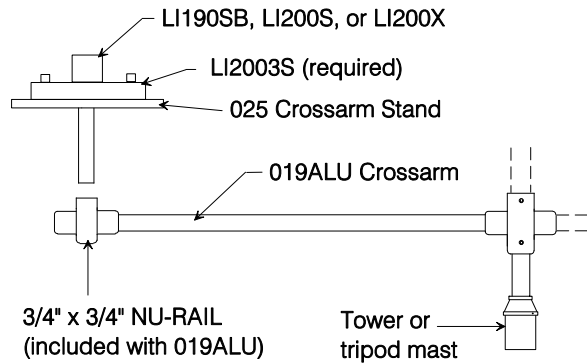

FIGURE 2-3. 025 Crossarm Stand and 019ALU Crossarm
- 5/32" Allen wrench for NU-RAIL (Figure 2-3)